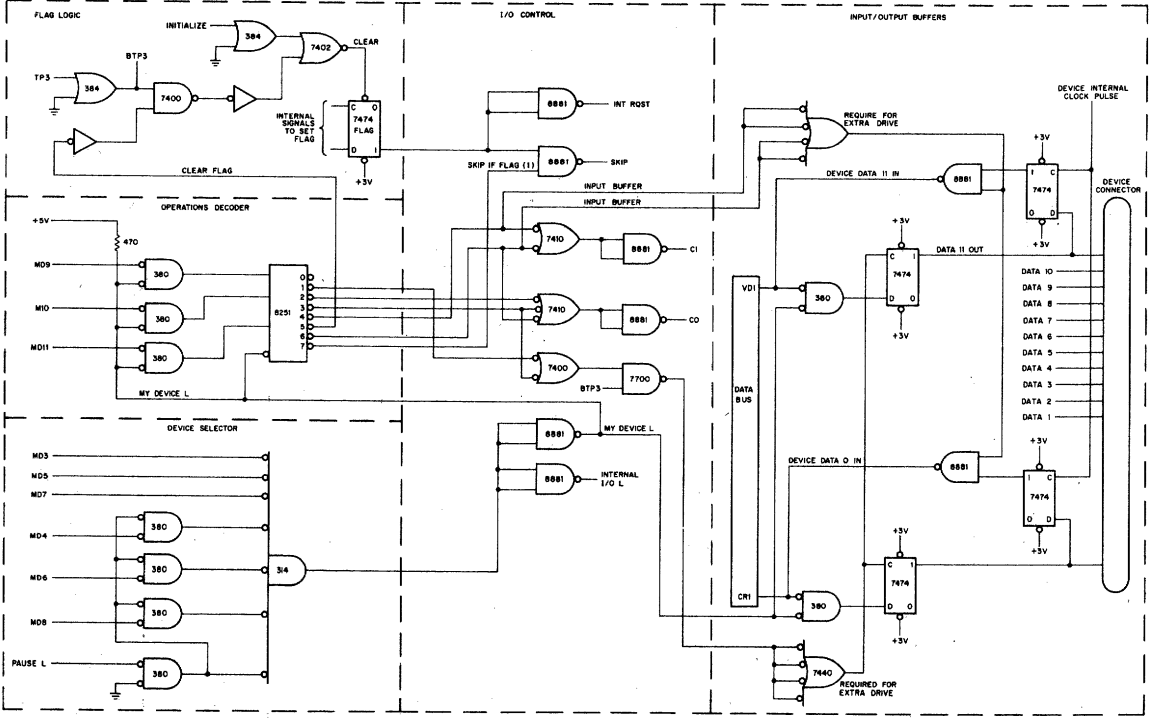
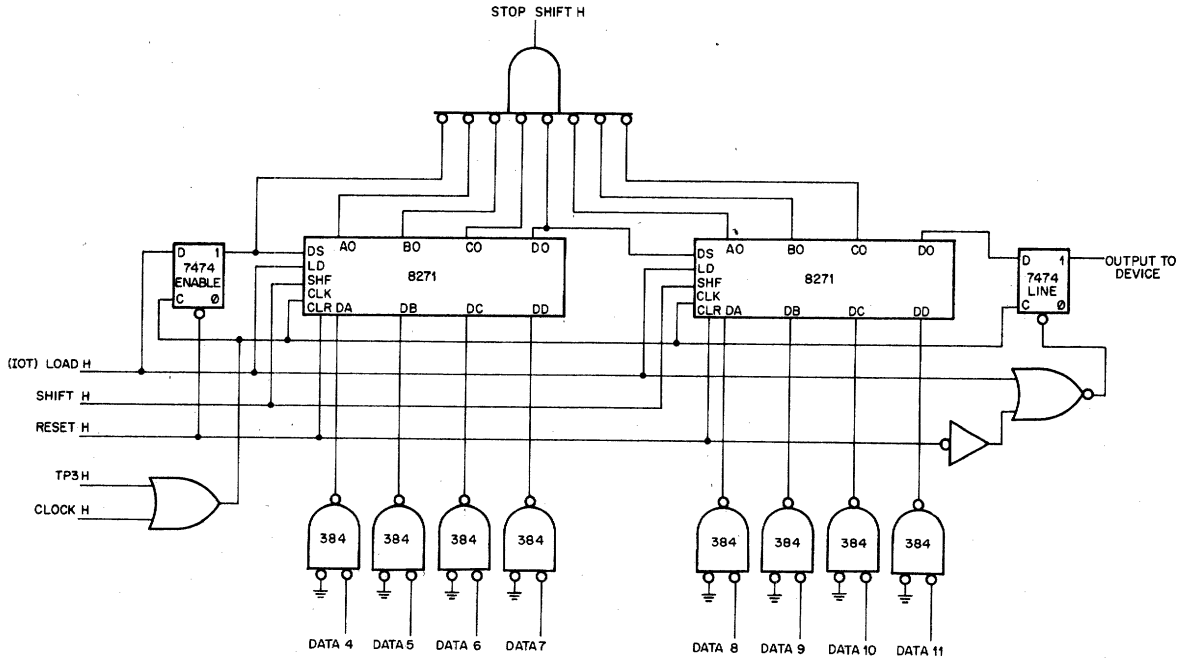

Figure 9-11 Sample Programmed I/O Interface Control Logic
Figure 9-12 Parallel to Serial Output Buffer
The basic interface control circuits to either transfer data in or transfer data out consists of: 1) a device selection circuit, 2) a device operations decoder, 3) I/O control logic, and 4) input/output buffers. An example of a basic programmed I/O interface control is illustrated in figure 9-11 followed by the related timing.
**DEVICE SELECTION CIRCUIT**—MD3-8 bits are used to carry the device select information. The example given in figure 9-11 shows the DEC380 and DEC314 being used as a simple decoder. When octal 52 is received and signal PAUSE is grounded by the processor, gate 314 is qualified. The output is used to assert signals INTERNAL I/O L and MY DEVICE L. No operation can occur unless signal MY DEVICE is grounded by the device selection decoder.
**OPERATIONS DECODER**—MD9-11 bits determine the type of operation to be performed. Three DEC380's are shown (see figure 9-11) receiving these bits. The outputs of these gates are in turn presented to a binary-to-octal decoder type 8251 and the decoded results control the interface in the manner shown in table 9-6.
**OUTPUT BUFFER**—The output buffer serves to receive processor data during an IOT instruction and outputs data to a device at the device timing. Two types of output transfers can be made depending upon the device. A parallel to parallel transfer will transfer the parallel data from the DATA BUS to an equal number of parallel lines to the device. A parallel to serial transfer will load the parallel data from the DATA BUS into the buffer and shift the data out to a single output line to the device. Figure 9-12 illustrates a parallel to serial output buffer. Signal LOAD BUFFER gates the contents of the DATA BUS onto the set side of the register flip/flops. This illustration shows 8 data bit flip/flops in between an ENABLE and LINE flip/flops. A shift control circuit must also be added to provide the necessary buffer control.
A more simple version is the parallel to parallel transfer. The illustration in Figure 9-12 could be slightly modified to include only the input gates and the flip/flops; data can be applied to the output circuit from the one side of each flip/flop.
In the sample Programmed I/O Interface Control (figure 9-11), each input flip-flop is a type 7474 and is represented on the illustration as a 12-bit buffer register. The data OUTPUT is clocked by IOT 6521 or 6523 and TP3. However, for a parallel to serial conversion (figure 9-12), the LOAD IOT loads the buffer with TP3H and shifts the data with each internal clock & shift pulse.
In the sample Programmed I/O Interface Control (figure 9-11), each buffer register is a type 7474 and is represented on the illustration as a 12-bit buffer register. The data input is clocked in by the device's internal timing and gated out to the DATA BUS by IOT 6524.